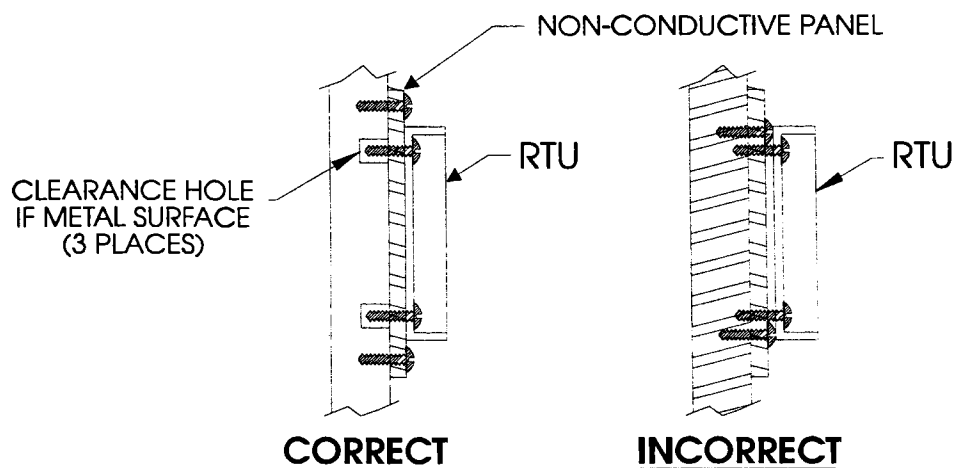

Figure 3-1. WALL MOUNTING OF RTU
- If the enclosure is to be mounted to metal or other conductive surface, a non-conductive mounting plate or panel should be installed. Drill larger clearance holes into the conductive wall in those locations where the mounting bolts of the enclosure will be located so as to isolate the enclosure mounting bolts from the conductive wall when attached to the non-conductive mounting plate. Mark and drill the non-conductive panel and mount the RTU in the correct location. See Figure 3-1 below.